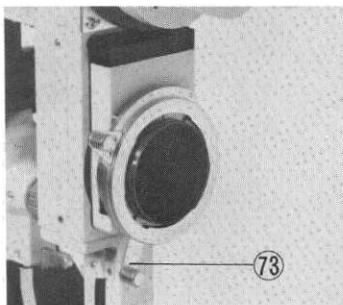

Fig. 72
- (b) Move the attachment fixing lever73, on the bottom of the camera attachment mount(of the photographic attachment), to the left, insert the photographic attachment into the box frame opening below the binocular microscope and then move the fixing lever to the right, which will fix the attachment securely. (See Fig. 72)